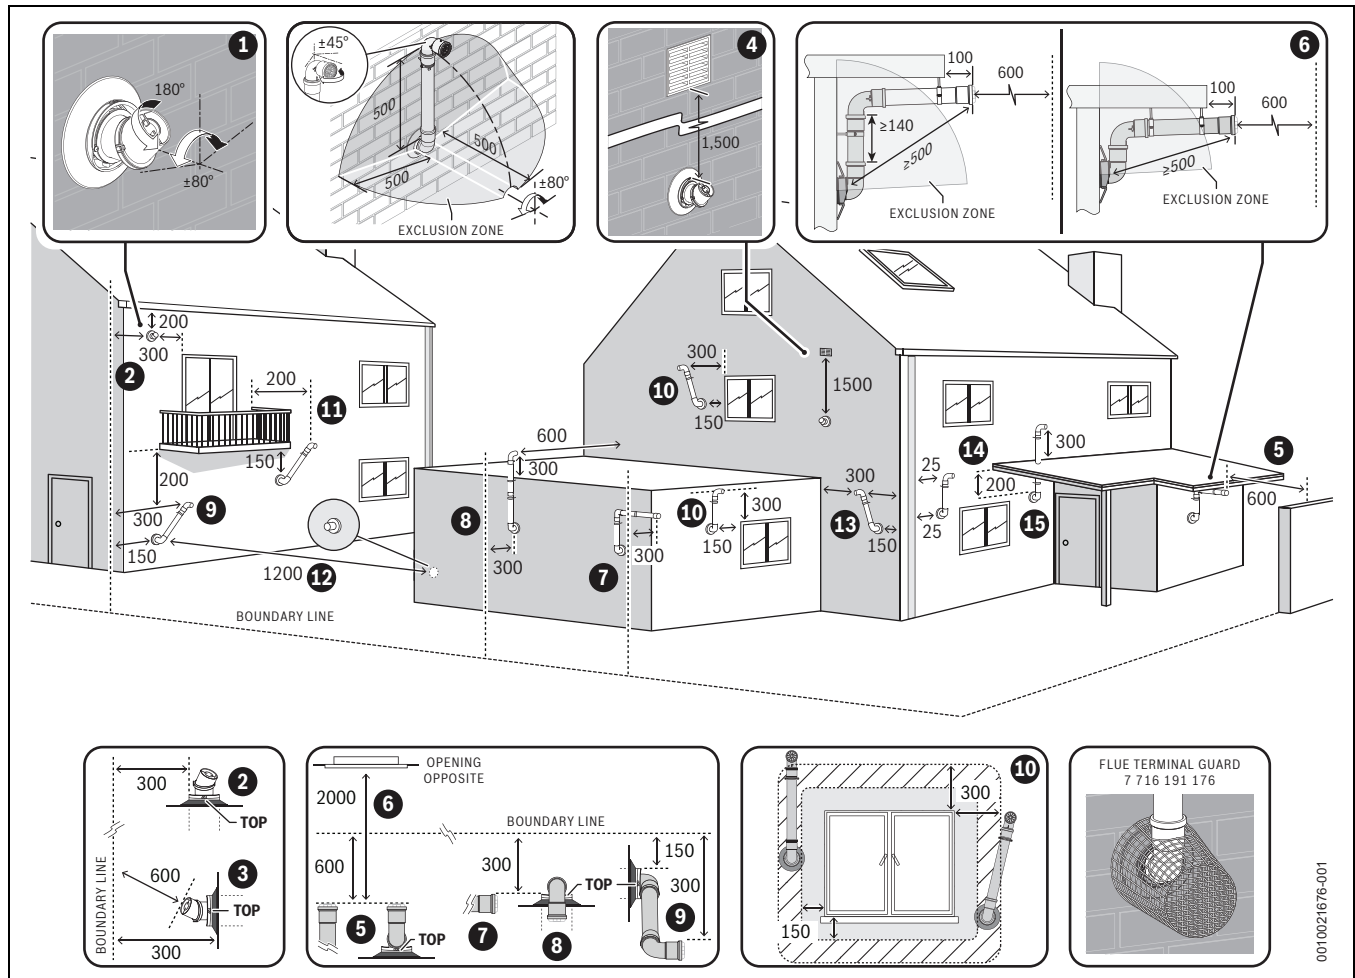

Fig. 30 Plume re-direct and plume management terminal positions
- ▶ Refer to “Horizontal flue terminal positions” for all concentric flue terminal positions unless the flue position is specified in figure 30 “Plume re-direct and plume management terminal positions”.
Key to figure 30 - Plume re-direct terminal positions:
Key to figure 30 - Plume management terminal positions: